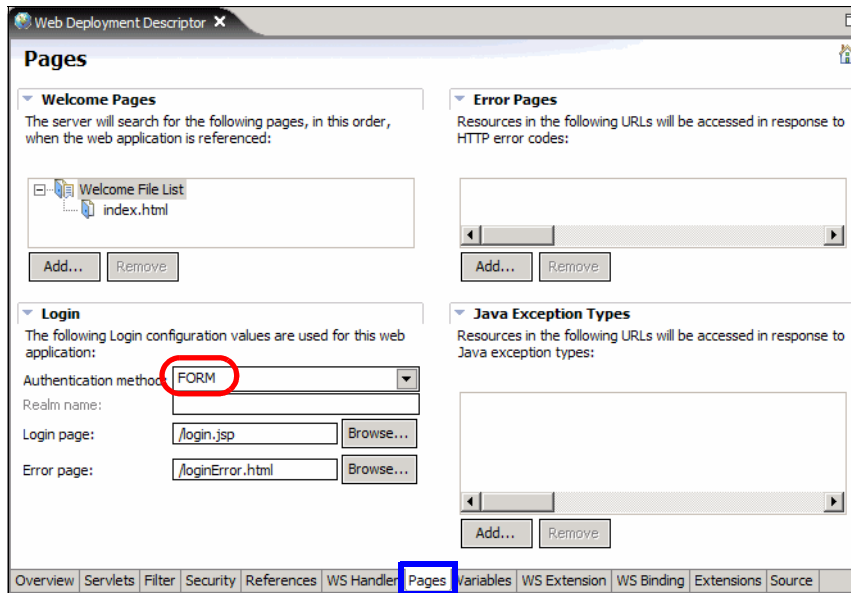

Figure 11-15 Web deployment descriptor login pages
- ▶ Select the *Pages* tab. For login authentication method, select *FORM*. Then select the login.jsp and the loginError.html page for the login and error pages (Figure 11-15).